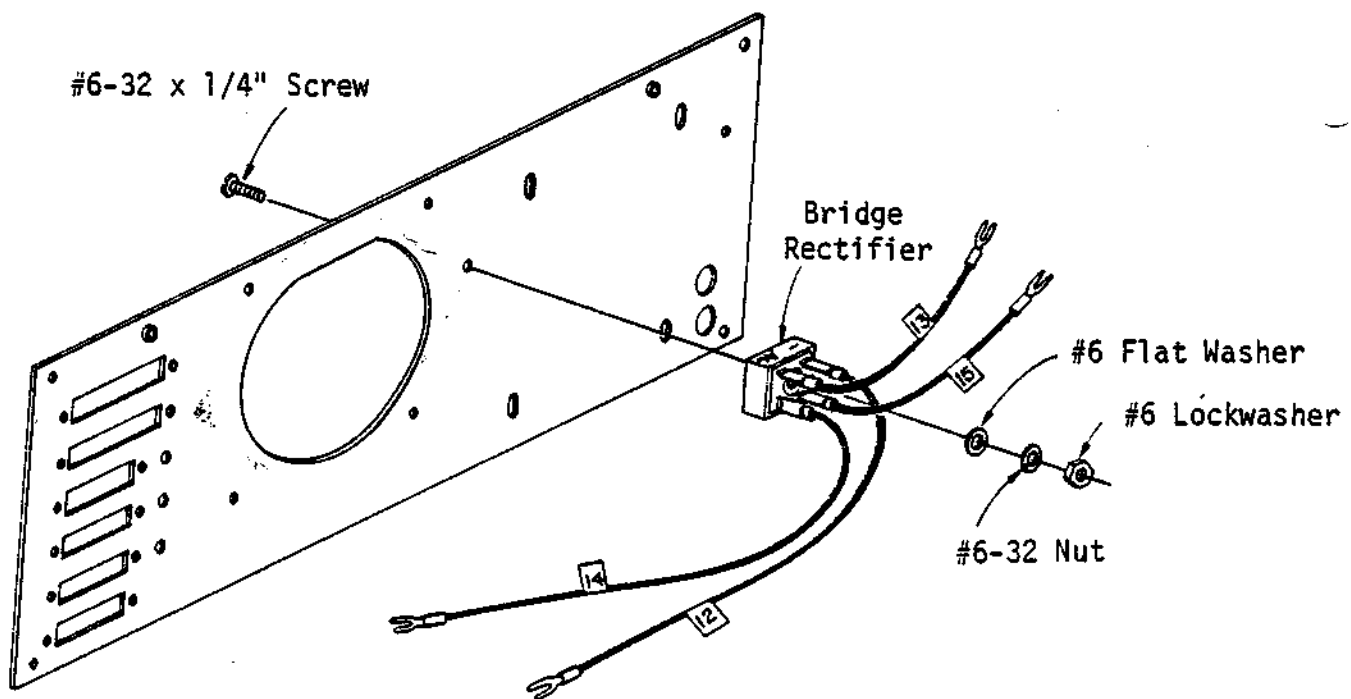

Figure 5-51. Bridge Rectifier Installation
(Figure 5-51)
Use the following instructions to wire the bridge rectifier (Bag 1) and mount it to the back panel as shown in Figure 5-51. The bridge rectifier is part number KBH25005.
4. Slip the A size terminal ends onto the bridge rectifier terminals as shown in Figure 5-51. Attach the two 5-inch wires to the "AC" terminals and use masking tape to label them 13 and 15. Attach the two 19-inch wires to the "+" and "-" terminals and label them 14 and 12 respectively.